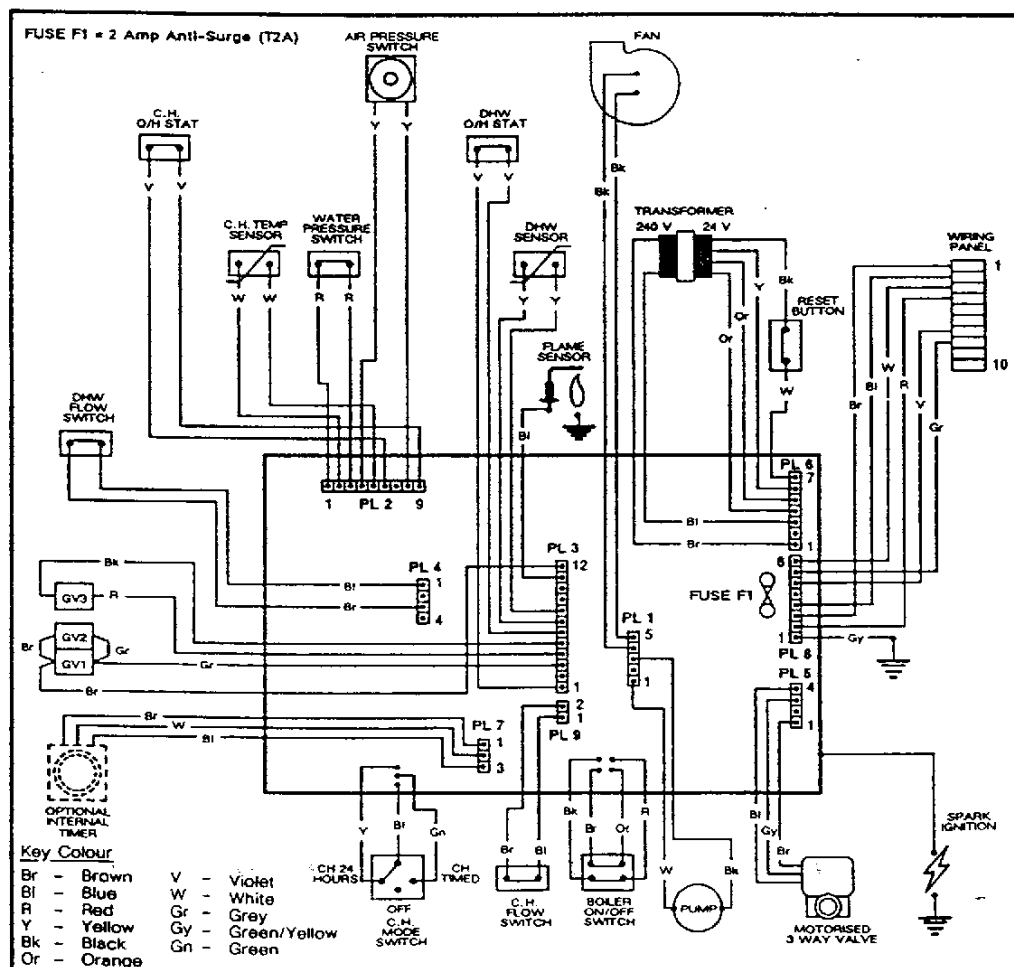

Fig. 16 BOILER WIRING DIAGRAM
6. WIRING THE APPLIANCE (See Fig. 16)
The internal wiring of the appliance is shown in Fig. 16. The wiring diagram is also on the inside of the casing wrap.